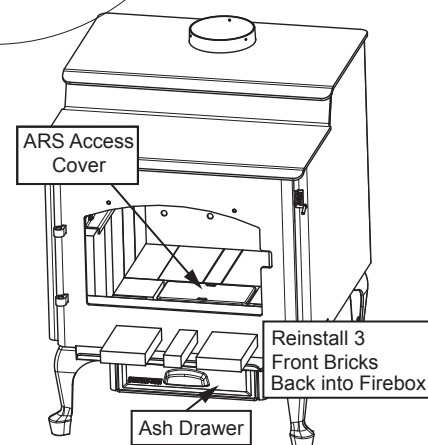

Figure 21.4
1. Replace front 3 bricks that were removed (**Figure 21.4**).
3. Install ARS access cover inside of ARS Channel that is located inside the firebox (**Figure 21.4**).